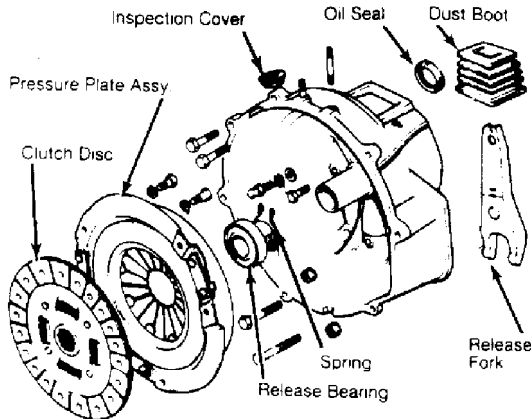

Fig. 1: Exploded View of RWD Clutch Assembly
5) Install clutch assembly Alignment Tool (49 SE01 310). Loosen pressure plate mounting bolts evenly, in a diagonal pattern. Remove clutch disc and pressure plate. Remove release bearing and fork. See Fig. 1.